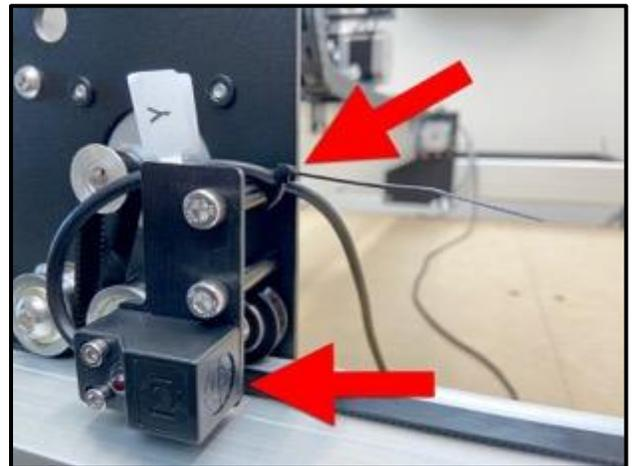

Figure 7-9
6. Use the 4mm hex key and two (2) M5x8mm socket head cap screws to install the mounting plate to the two 30mm standoffs on the **OUTSIDE** of the Y2-rail with the switch to the outside of the plate and facing the rear. See *Figure 7-9*.
7. Use one (1) cable tie to secure the proximity switch cable to the upper standoff. See *Figure 7-9*.